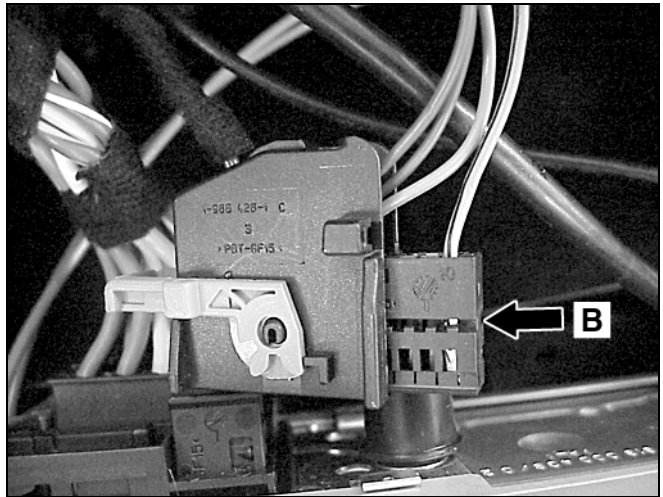
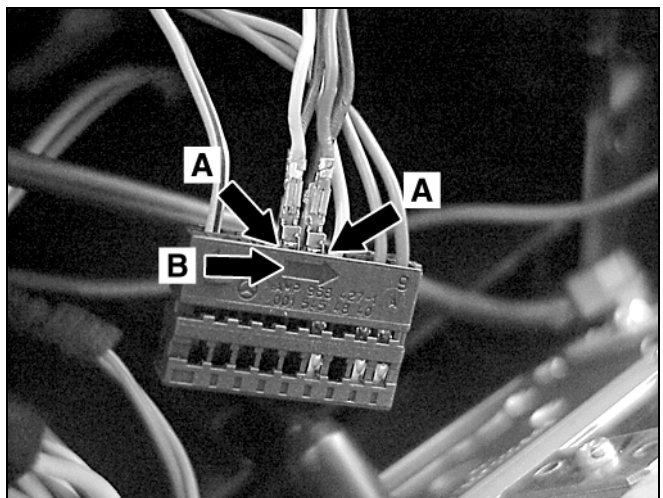

Figure 6
Figure 7
12. Locate the disconnected C-2 plug in the space vacated by the COMAND unit (A, Figure 6).
13. Remove the pin connector from the C-2 plug (B, Figure 6 and Figure 7).
14. Connect the new terminals on the wires of the auxiliary input harness into the pin connector (A, Figure 7).
15. Reinsert the pin connector into the C-2 plug, making sure the arrow on the pin connector points toward the C-2 plug (B, Figure 7).